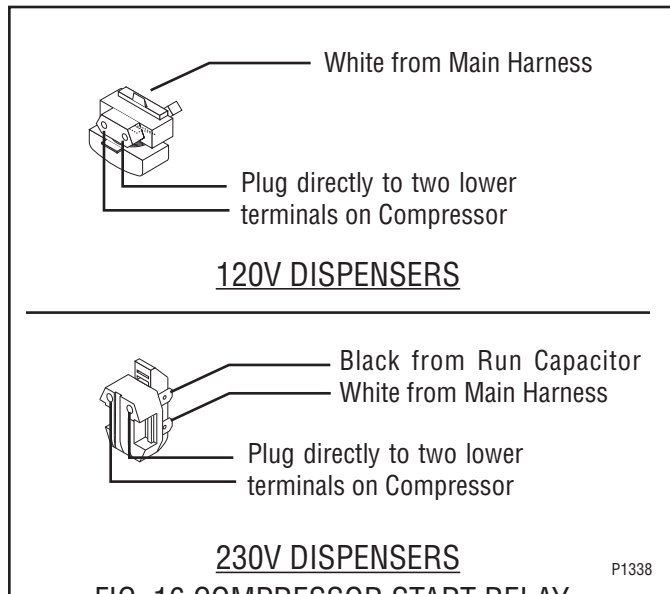

FIG. 16 COMPRESSOR START RELAY
1. Remove the terminal cover retainer (5) and the terminal cover (4).
3. Pull relay (1) off of the compressor pins and discard.
5. Refer to Fig. 16 and reconnect the wires.
6. Reinstall terminal cover (4) and cover retainer (5).